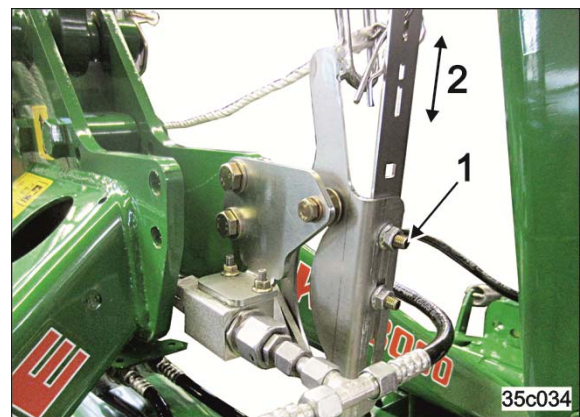

Fig. 140
1. Unscrew the nuts (Fig. 140/1).
2. Put the actuation hooks into the desired position (Fig. 140/2), so that it is possible to lift with the universal joint shaft running.
3. Tighten the nuts (Fig. 140/1).